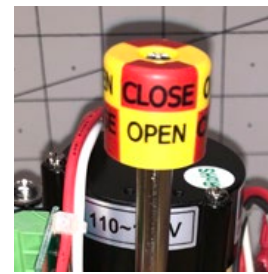

Fig 1 - 3D position indicator identifies the rotation angle of the actuator.
13. There are NO mechanical stops on this actuator. When using the manual override on the bottom of the actuator, pay attention to the 3D position indicator (Fig 1) on the top side to prevent overtravel outside the intended travel range.
1. The bare actuator normally ships in the full CW (Closed) position. This can be verified by observing the top-mounted 3D position indicator before the top cover is removed. When in the full CW position, the color showing is RED and "CLOSE" is visible thru the window. (Fig 1)